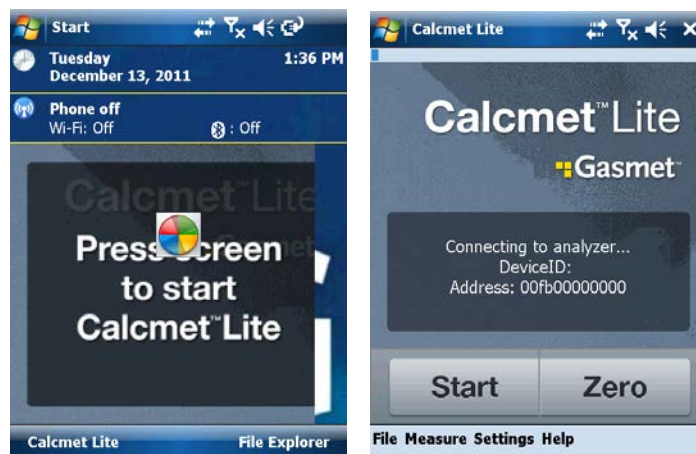

Figure 15. Correct Calcmeter Lite start-up sequence.
- Use the furnished stylus pen attached in the back of the PDA and click on the Calcmeter Lite icon or go to: Start → Calcmeter Lite (Figure 15).